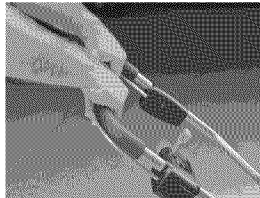

Figure 26 - Raising Bail Handle
3. Continue to press the key into the key slot while raising the bail handle (see Figure 26). The motor will start and the mower blade will begin to rotate. Once the mower is started, the safety key can be released.